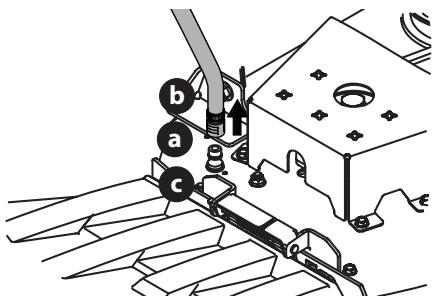

Figure 30
3. Pull back the lock collar (a) of the nozzle adapter (b) and push the nozzle adapter onto the deck wash nozzle (c). Release the lock collar to lock the nozzle adapter on the deck wash nozzle (Figure 30 on page 24).